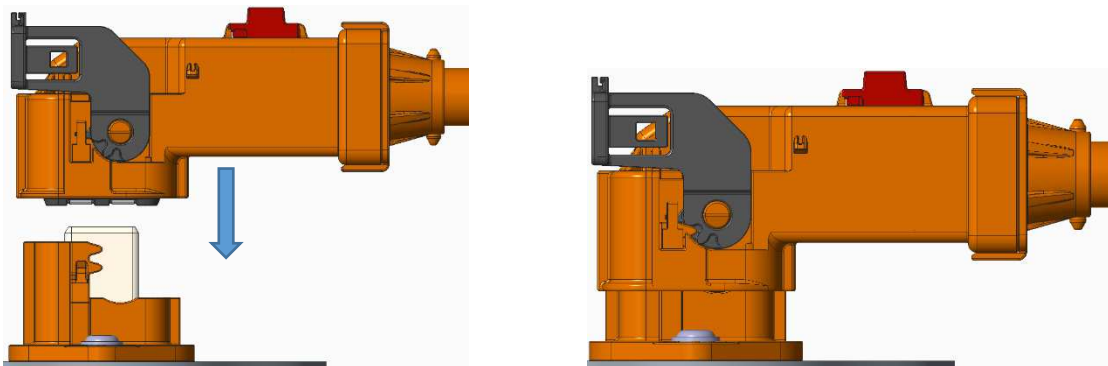

Figure 17: Plug and Header Pre-Lock
3. Holding the Plug connector body, push the connector halves together until the Header gear teeth completely engage with the Lever gear teeth as shown in Figure 17.